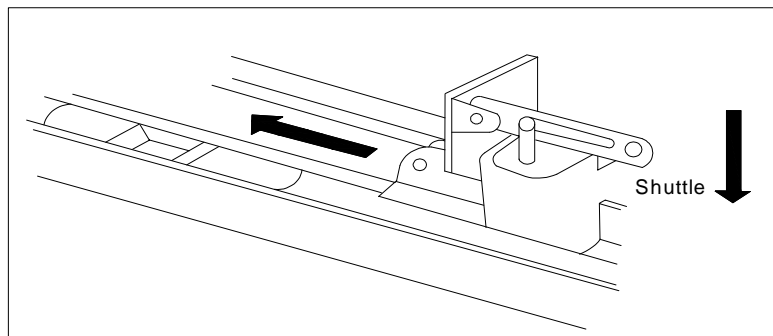

Fig.5 Aluminium rail
- Aluminium rail (see Fig.5): insert the shuttle into the groove at the end of the rail. Be sure the release lever on the shuttle faces towards the powerhead. Slide the shuttle along the rail until it locks into the chain connector.